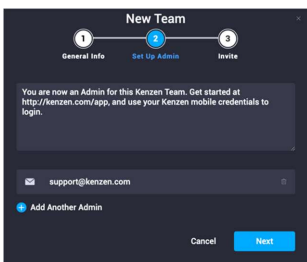

Figure 38: Add Admin Users
6. Invite Administrators to the team by entering the new admin's email address. Select **Add Another Admin** to add additional email addresses (Figure 38).